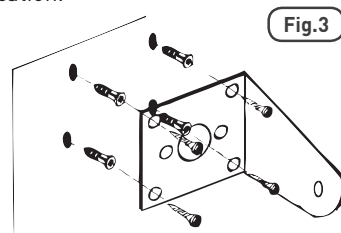

Fig.3
- ⚠ DO NOT WIRE THIS FLOODLIGHT INTO THE LIGHTING CIRCUIT. USE A SWITCHED FUSED SPUR (FIG.3). CABLES SHOULD ALWAYS BE PROTECTED AGAINST SHORT CIRCUIT AND OVERLOAD. ENSURE THE VOLTAGE MARKED ON THE PRODUCT IS THE SAME AS THE ELECTRICAL POWER SUPPLY TO BE USED.
- Drill the wall and screw the bracket onto the wall using the wall plugs and screws provided (Fig.3).